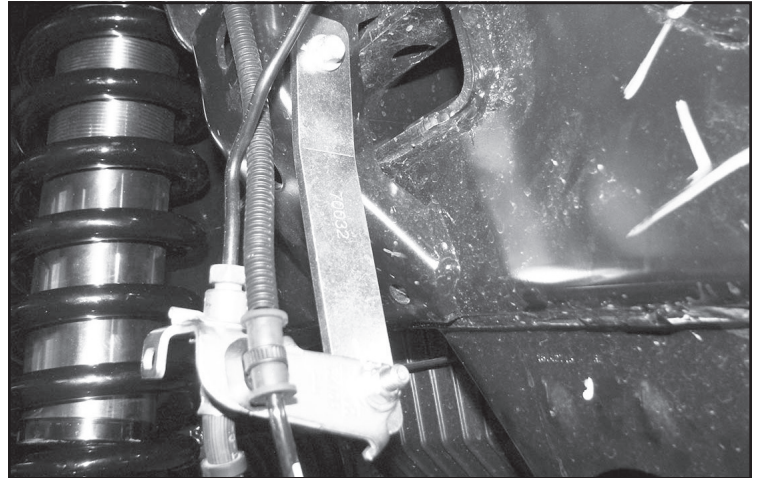

FIGURE 11 - STEP 23
23. Install the new brake line bracket (FT70032) using the factory hardware and supplied 5/16" hardware. Torque to 29 ft-lbs. **SEE FIGURE 11**